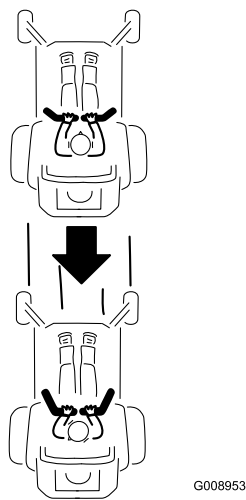

Figure 15
- 2. To go backward, look behind you and down, as you slowly pull the motion-control levers rearward (Figure 15).
- To go straight, apply equal pressure to both motion-control levers (Figure 15).